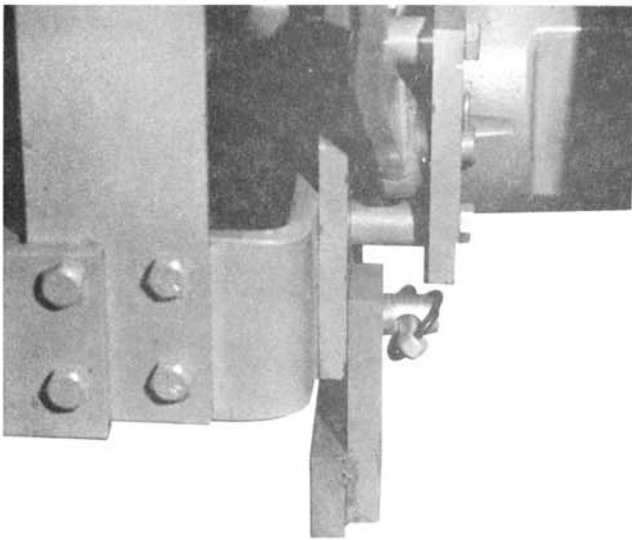

fig 15
5. Slide the hinge support weldment, that was installed during set-up over the link pin in back of tractor and secure with kirk pin (item 104). See fig 15.